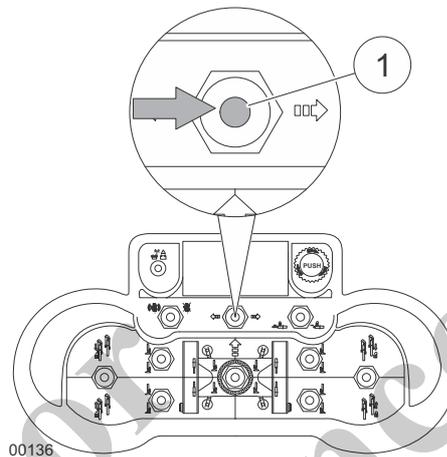

Fig. 150 Telescoping the track wheel carrier out
- 5 Push the lever (1) in Fig. 150 on the remote radio control to the right until the right track wheel carrier is completely extended.